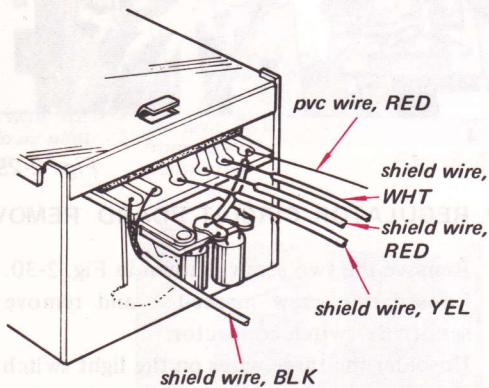

Fig. 2-20
2. Unsolder the five wires shown in Fig. 2-20.